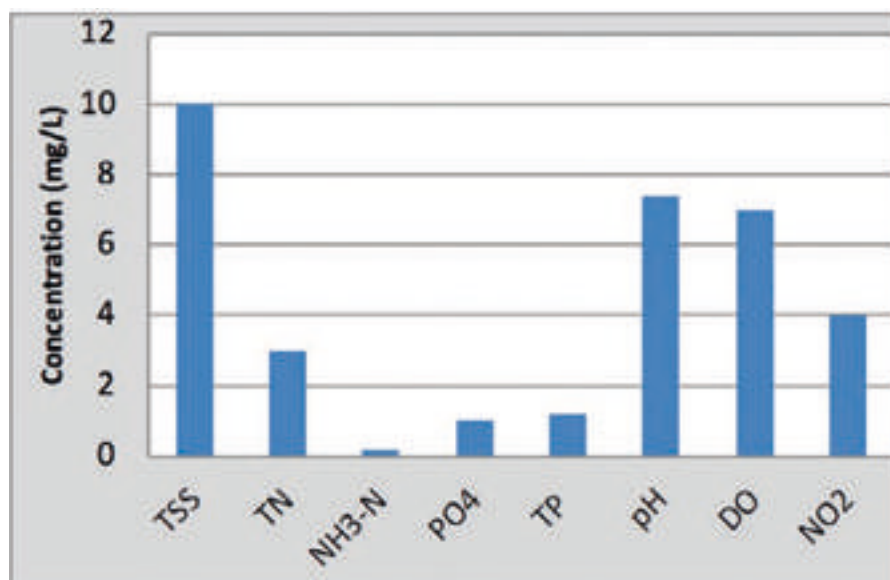

Figure 3. Typical effluent quality results for 2017–2019.
The quality of the treated effluent is stable year round (Figure 3) with only minor rises in Total Nitrogen (TN) in the colder months.